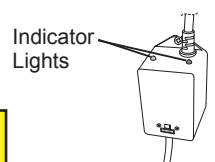

FIGURE 7
22. Once power is activated you can check the ballast (12), Figure 7, to see if the CLEARARRAY System is functioning. A solid green light indicates that the CLEARARRAY System is being provided power and should always be on. A solid red light indicates that UV bulb is activated.